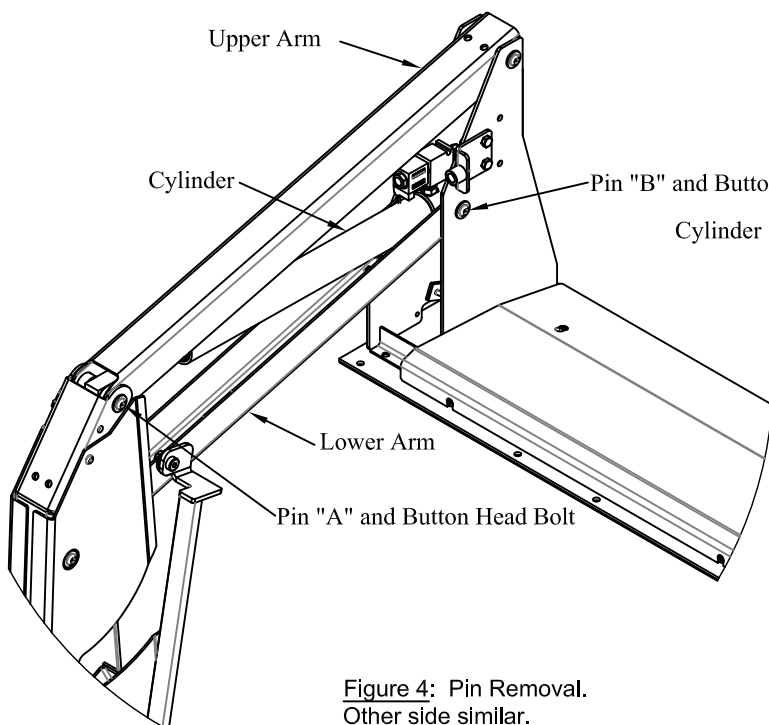

Figure 4: Pin Removal.
3. **Remove** the button head bolts from pins "A" and "B" (Figure 4).
4. **Place** a rag or piece of cardboard in the lower arm to protect the paint from the cylinder vent plug (Figure 4).
5. **Remove** pin "A" (Figure 4).